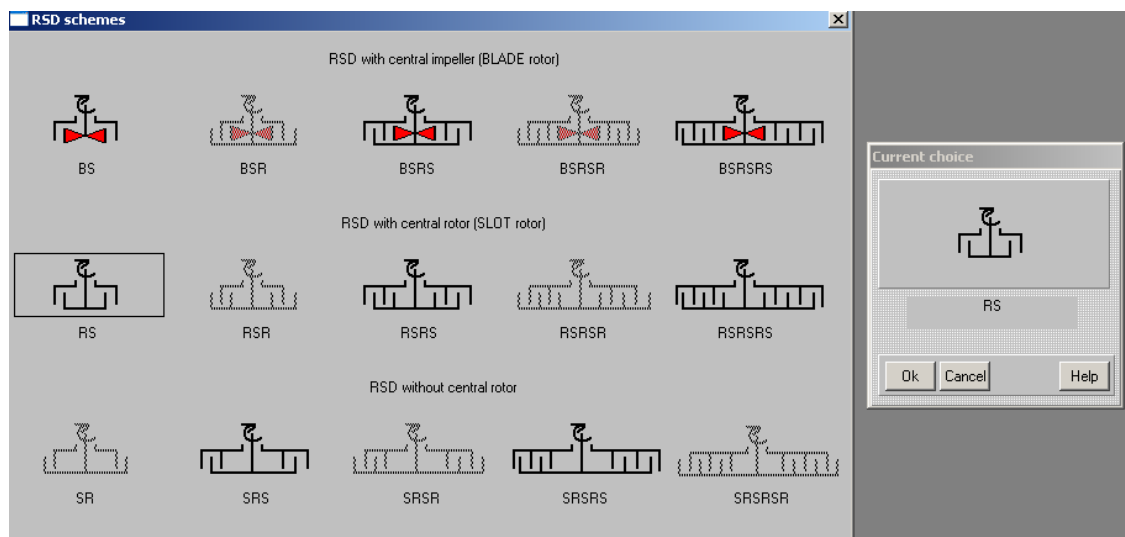

Figure 15.
- 1.1. Open a new project **Ex1- Bot.vrs** via **Project>New** in the main menu and save it in the same directory. In the arriving visual selection menu (Figure 15) select scheme **RS - a single-stage RSD with central SLOT-type rotor** - that corresponds to design of the bottom-entering RSD.
- 1.2. The next steps – entering the data in to Input tables for **RSD scheme, Stator 1** and **Rotor 1** – are illustrated with Figures 15 – 18.